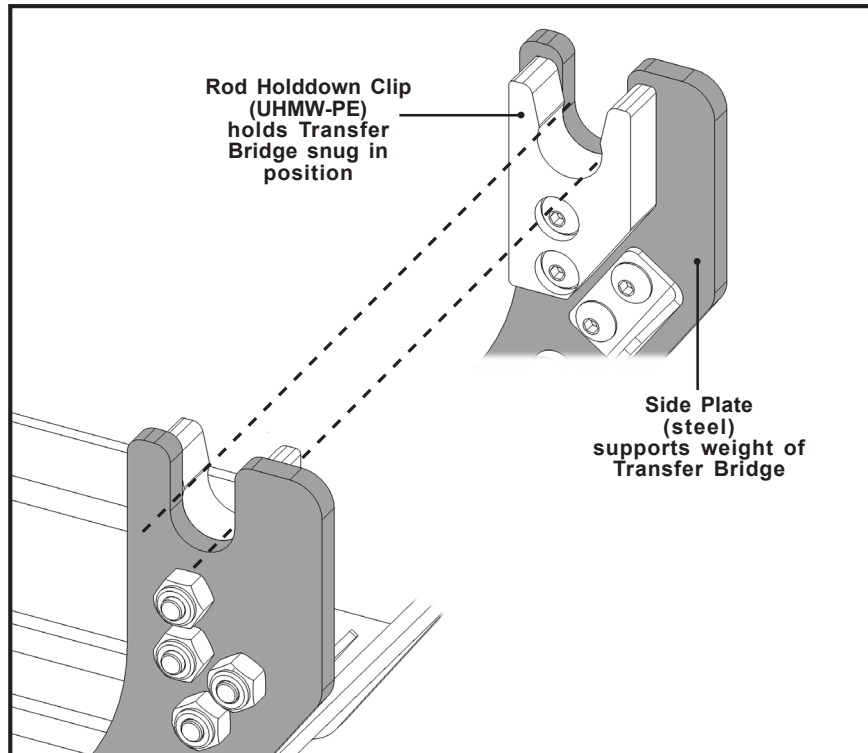

Figure 52: Transfer Bridge installation - seating pockets
- Ensure that Transfer Bridge's support rods are correctly installed into Frame Assembly's seating pockets (Figure 52).